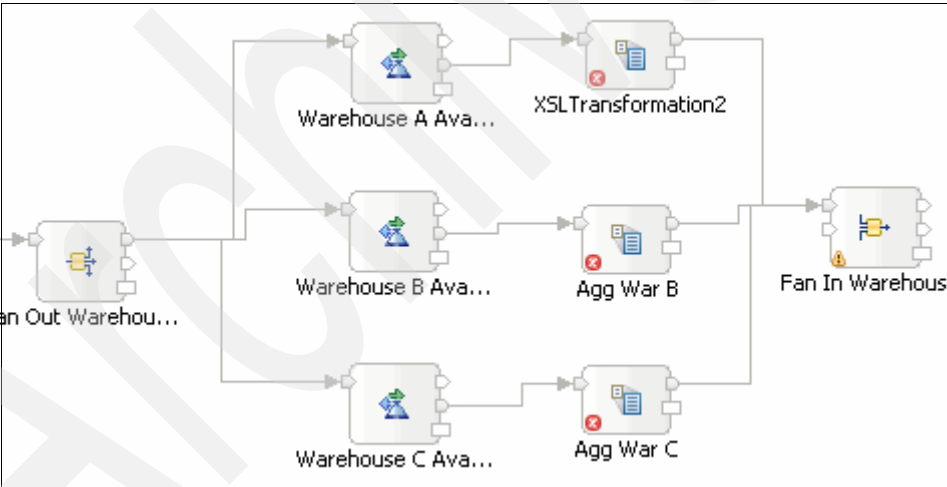

Figure 6-51 Warehouse Availability mediation flow wired
10. Save the editor. Figure 6-51 shows the expected mediation editor.